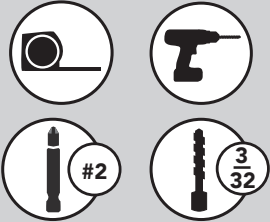

FIGURE 5
Mark and pre-drill mounting holes using measurements in figures 5 and 6. Attach door mounting brackets using (6) #6x1/2" flathead screws.